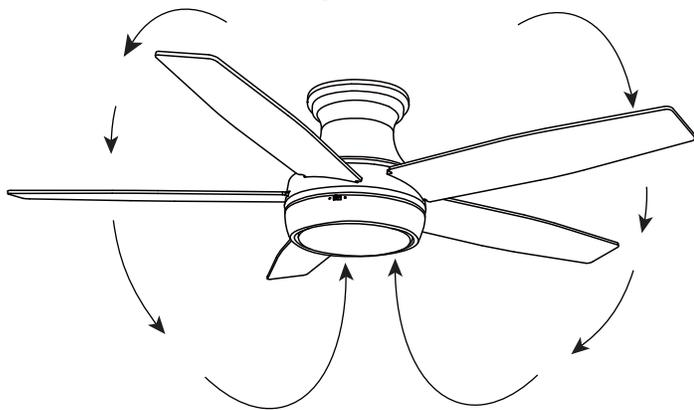

Figure 15
* Cool weather - (Reverse) An upward air flow moves warm air off the ceiling area as shown in Figure 15. This allows you to set your heating unit on a lower setting without affecting your comfort.